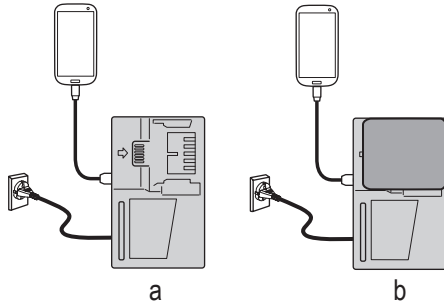

Fig. 43
- Charging a USB device from a electrical outlet. (Fig. 43-a)
- Charging a USB device and battery from an electrical outlet. (Fig. 43-b)